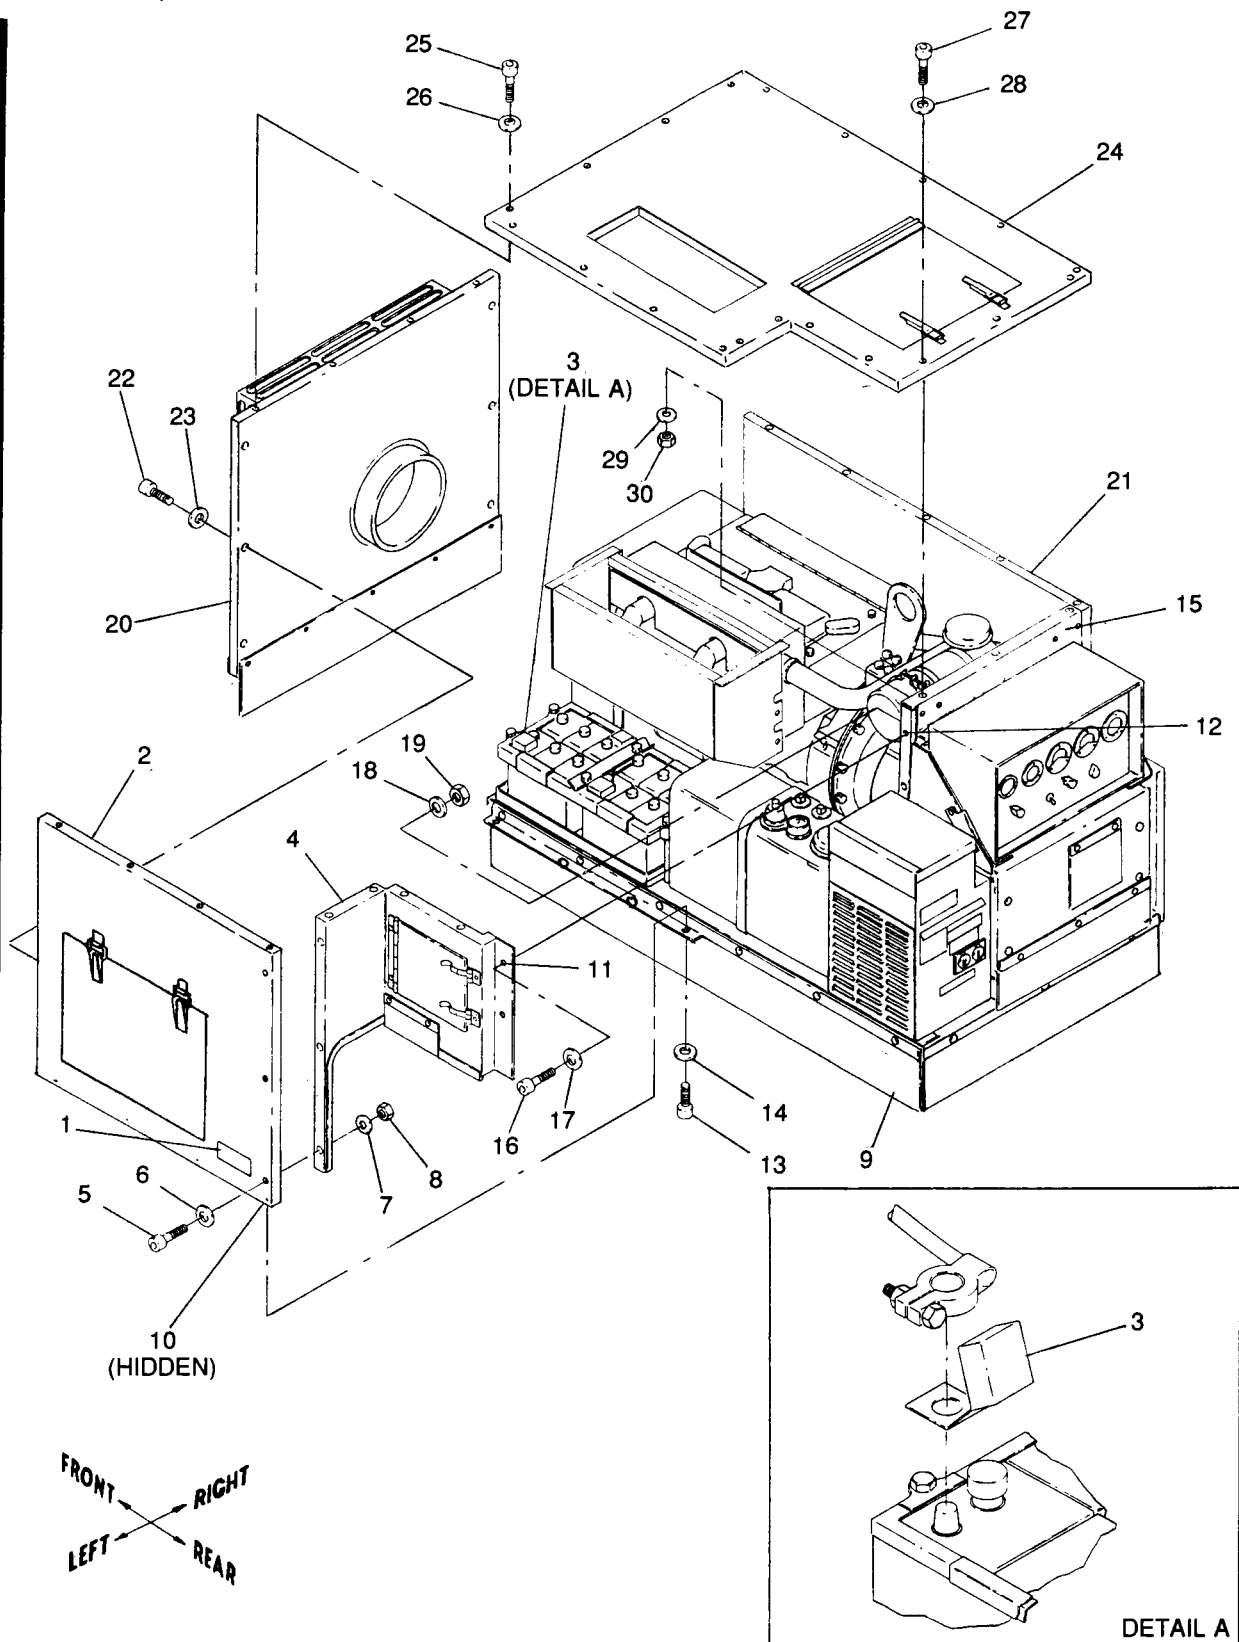

Figure 10-6. Installation of Left Panel, Side Closure, Front Panel and Top Panel Assemblies
11.	Top Panel (24, fig. 10-6)
(1) Remove battery connection instruction plate mounted next to batteries by breaking off rivet heads with hammer and chisel. Clean underside of plate. Refer to figure 10-6 and reinstall plate (1) on left panel assembly (2) at location shown with double sided tape (as listed in Table 10-1, item 8).
(2) Refer to Figure 10-6, detail A, and install battery terminal covers (3). Disconnect cable clamps from battery terminals. Place 4 each terminal covers (3) over battery
(1) Refer to figure 10-6 and clear out acoustic fill from holes in front panel assembly (20) using 3/8 inch diameter pin.
(2) Install front panel assembly (20) to right panel assembly (21) and left panel assembly (2) with six screws (22) and six washers (23) (as listed in table 10-1, item 10). Start all screws by hand first.
(3) Torque screws (22) to 18  $\pm$ 2 in.-lbs dry.
(1) Refer to figure 10-6 and clear out acoustic fill from holes in top panel assembly (24) using 3/8 inch diameter pin.
(2) Locate top panel assembly (24) by aligning holes in top panel assembly (24) with captive nuts in left panel assembly (2), right panel assembly (21) and front panel assembly (20), and with holes in side closure assembly (4) and rear closure assembly (15).
(3) Install top panel assembly (24) to left panel assembly (2), right panel assembly (21) and front panel assembly (20) with 13 screws (25) and 13 washers (26). Install top panel assembly (24) to side closure assembly (4) and rear closure assembly (15) with seven screws (27), 14 washers (28 and 29) and seven-locknuts (30) (as listed in Table 10-1, item 11).
(4) Torque screws (25) to  $18 \pm 2$  in.-lbs dry.
(5) Torque screws (27) to  $16 \pm 2$  ft-lbs dry.